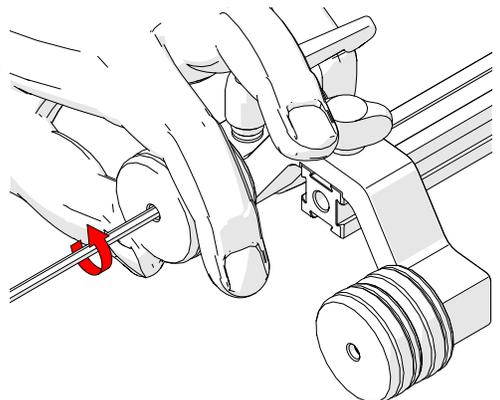

Fig. 41 - Tighten with 3 mm hex driver
4. Hold steady the magnetic wheel closest to the scanner body, insert the 3 mm hex driver into the axle and tighten the additional wheel (Fig. 41).